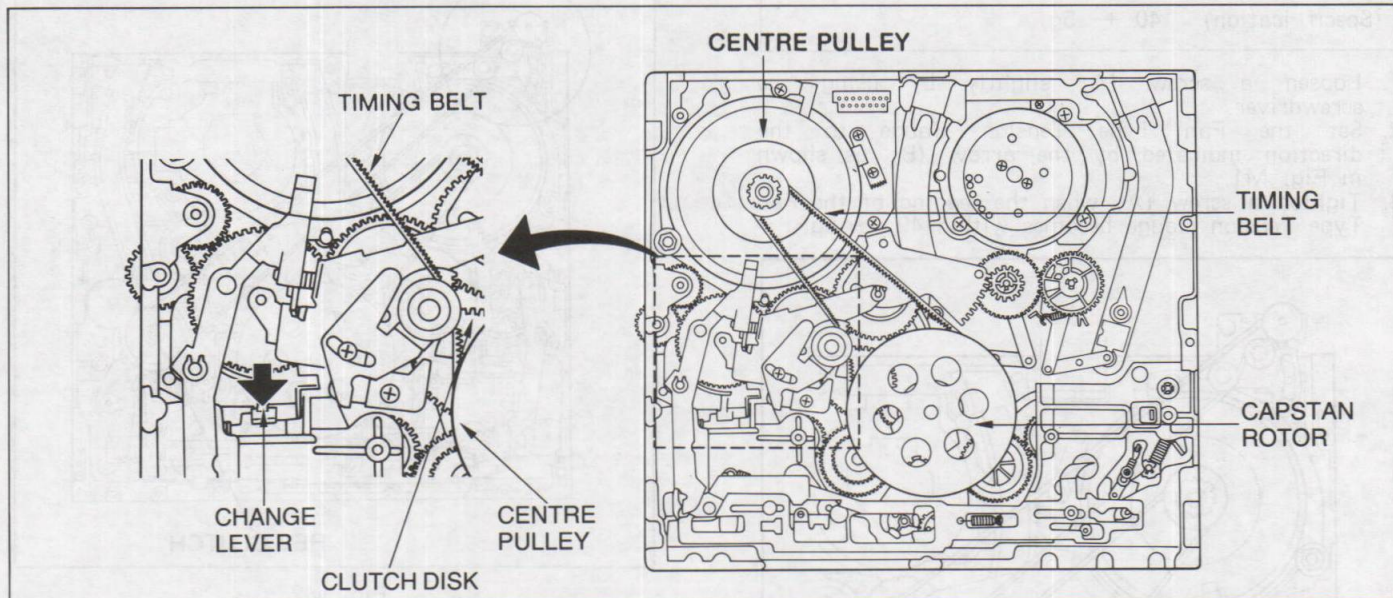

Fig. S1 How to Eject Manually
2. Release the Change Lever by pushing it to arrow mark direction as shown in Fig. S1.
5. Repeat the item 2 and the item 3 until cassette is ejected.
2. Take out the flexible (or flat) cable from connector on the cassette compartment and remove the cassette compartment from chassis. Set the mechanism to STOP (GII:STOP 1) mode as following items 3,4,5,6.
3. Release the Change Lever by pushing it to arrow mark direction as shown in Fig. S1.